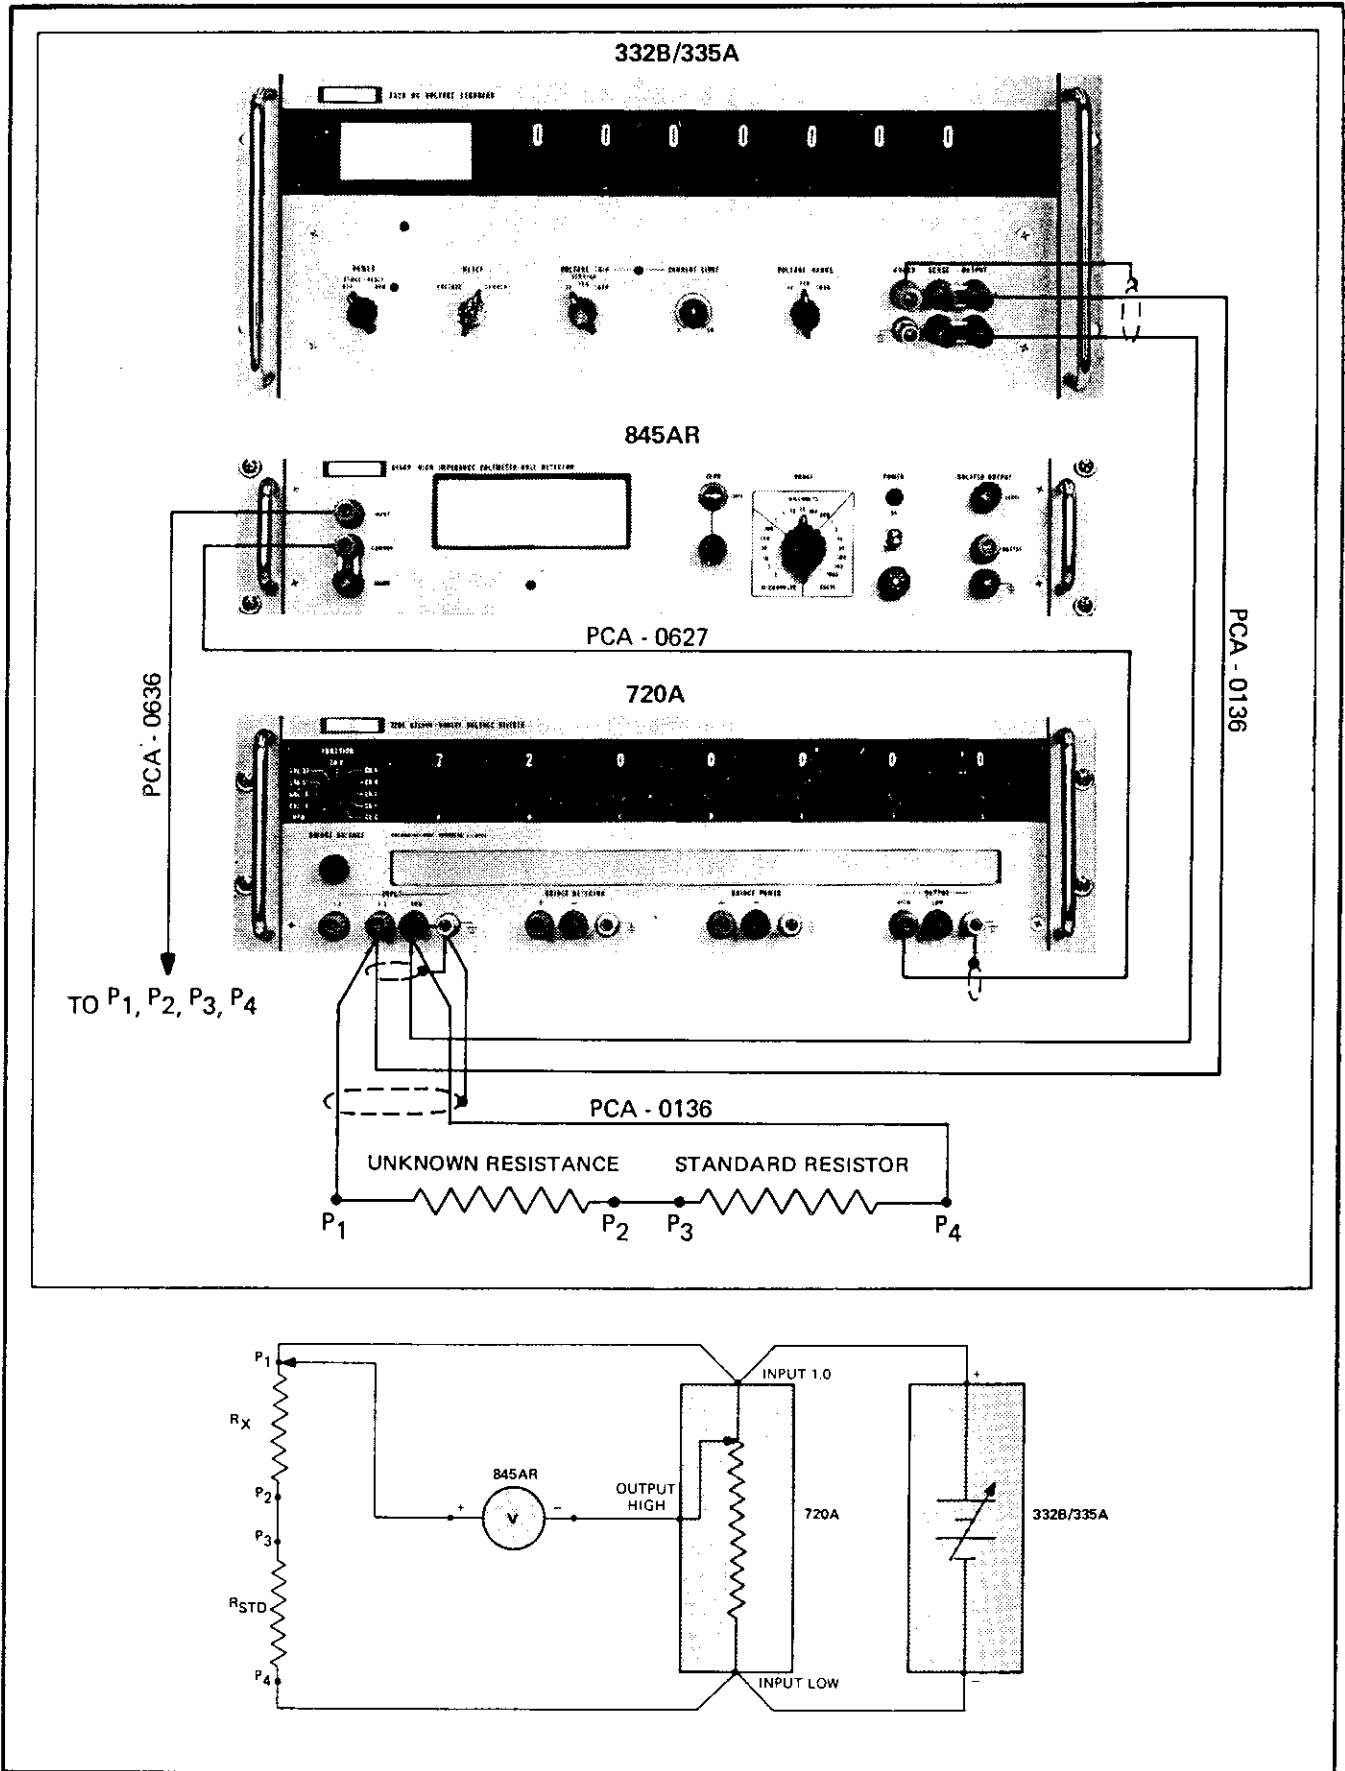

Figure 2-14. CONNECTIONS FOR RESISTANCE MEASUREMENT
- a. Make the equipment connections illustrated in Figure 2-14.